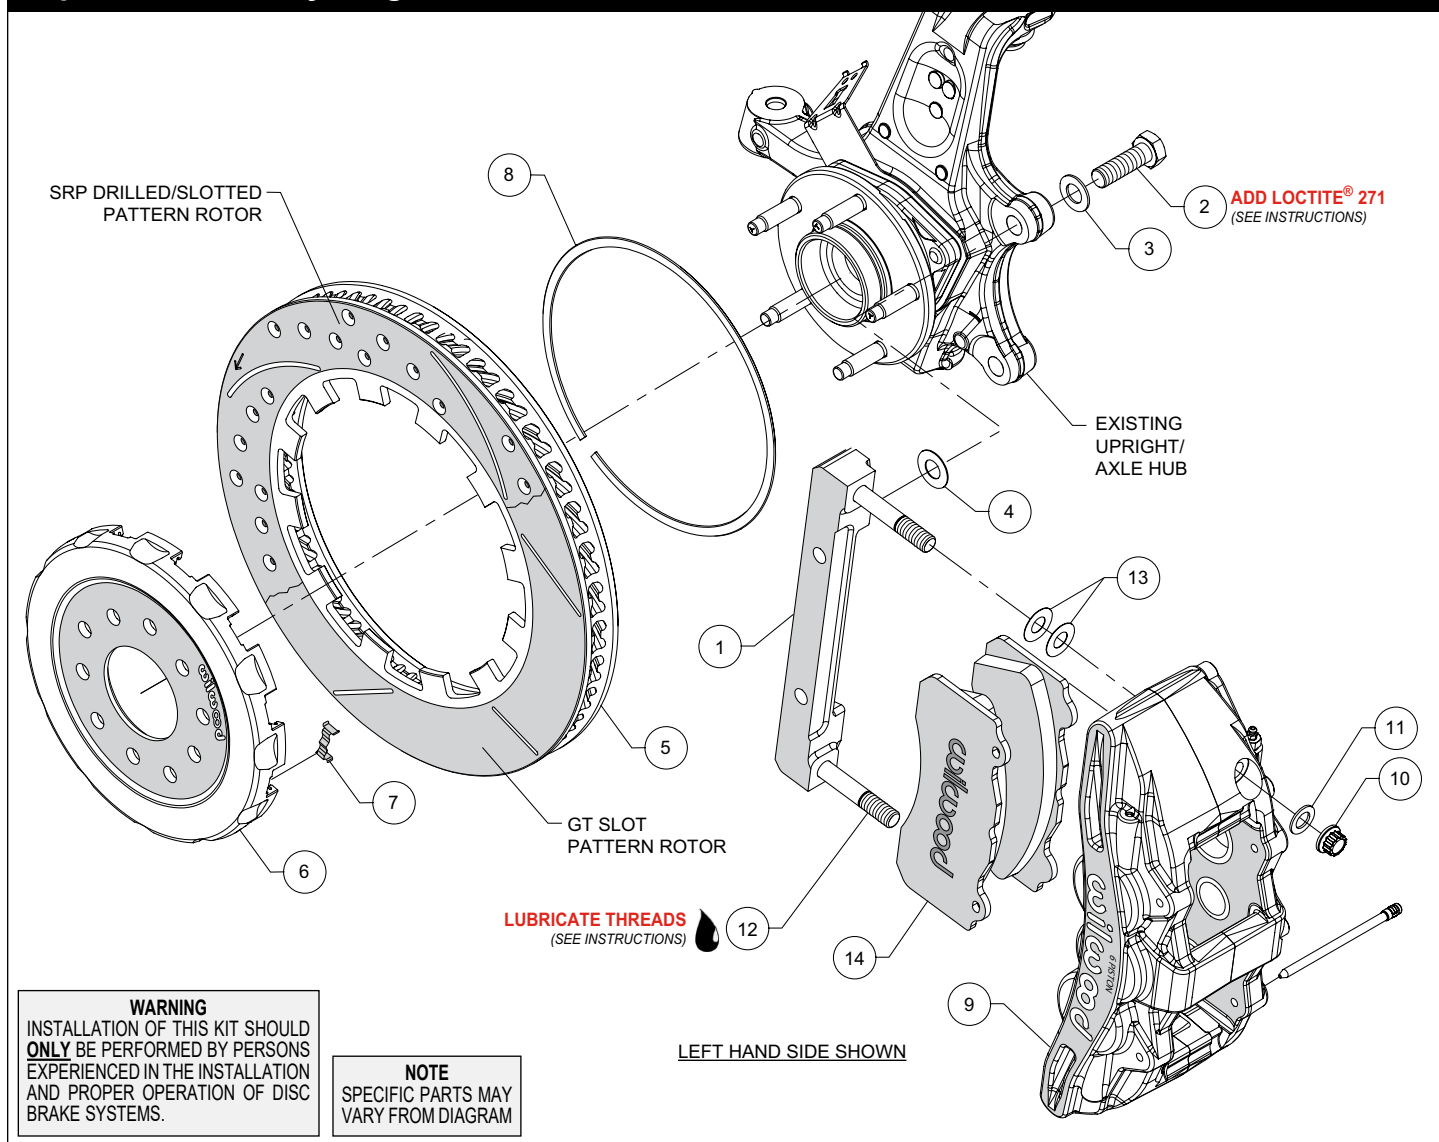

Figure 1. Typical Installation Configuration
NOTE: Numbers in parenthesis refer to the parts list and Figure 1 on the preceding pages.
- The caliper mount bracket (1) should initially be installed with clean, dry threads on the mounting bolts. Orient the bracket, as shown in Figure 1 and Photo 1, and install using bolts (2) and washers (3). Initially place one .029" thick shim (4) on each bolt between the bracket and upright, Figure 1. Temporarily tighten the mounting bolts. **NOTE:** The bracket must fit squarely against the mount bosses on the upright. Inspect for interference from casting irregularities, machining ridges, burrs, etc. Later, after the caliper alignment has been checked, the mount bolts will be secured using red *Loctite*® 271.
- Insert the dynamic mount wear clips (7) into the slots in the hat (6), Photo 2. Orient the rotor (5) as shown in Figure 1 and Photo 3, with the flush side of mount lugs facing the hat. Secure the rotor to the hat using the snap ring (8) by simultaneously pushing down on the rotor and installing the ring into the groove in the hat, as shown in Photo 4. Carefully inspect snap ring to ensure complete engagement in the groove.
- NOTE:** This kit contains distinct right and left hand calipers that must be mounted in a specific direction, as described below. Lubricate the caliper mounting studs (12) with lightweight oil. Initially place two .015" thick shims (13) on each stud between the caliper and the bracket, as shown in Figure 1 and Photo 6. Mount the caliper (9) onto the bracket (1) using lock nuts (10) and washers (11), Figure 1. Temporarily tighten the lock nuts. Ensure that the caliper is mounted so the largest pistons are at the rotor exit end of the caliper, in relation to the forward direction of the rotor. View the rotor through the top opening of the caliper. The rotor should be centered in the caliper, Photo 7. If not, adjust by adding or subtracting shims (4) between the bracket and the upright. Always use the same amount of shims on each of the two mounting bolts. Once the caliper alignment is correct, remove the bracket mounting bolts (2) one at a time, apply red *Loctite*® 271 to the threads, and torque to 77 ft-lbs.
- Remove the two pad retaining pins from the caliper (9) by pushing out the pins from the tapered end using a blunt instrument. Insert the brake pads (14) into the caliper from the bottom, Figure 1 and Photo 8. With the friction material facing the rotor, secure the brake pads in place with the pad retaining pins, Photo 9. Reinstall the caliper onto the caliper mounting bracket and temporarily tighten the lock nuts. Check that the top of the brake pad is flush with the outside diameter of the rotor, Photo 10. If not, adjust by adding or subtracting shims (13) between the caliper and the bracket. After the caliper pad height is set, torque the caliper lock nuts (10) to 65 ft-lb.